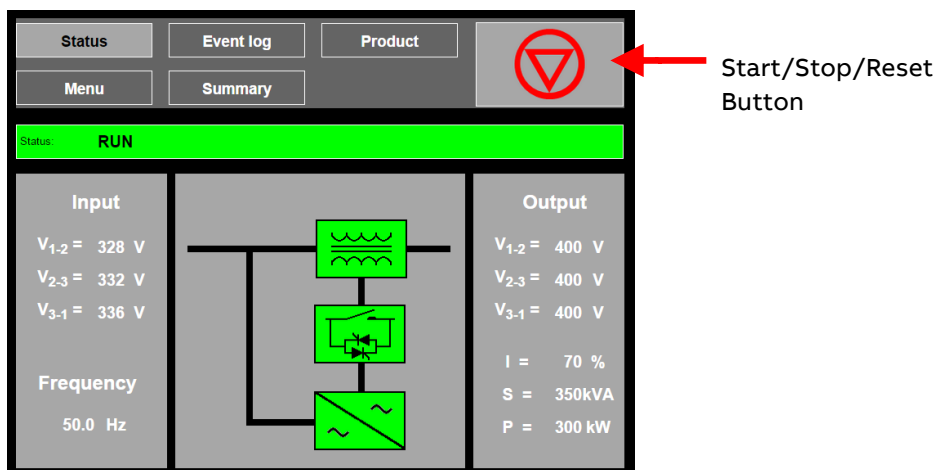

Figure 7-1: GDM Status Page
The Start (I) / Stop (O) /Reset button in the Navigation & Control Panel allows GDM control of the PCS100 AVC-40. When the PCS100 AVC-40 is stopped (Bypass) a green Start (I) button will show, and when running (RUN) a red Stop (O) button will show. Pressing the Start (I)/ Stop (O)/ Reset button followed by YES in the following confirmation screen will cause that action to be taken. Figure 7-1: GDM Status Page shows the status page when the PCS100 AVC-40 is running.